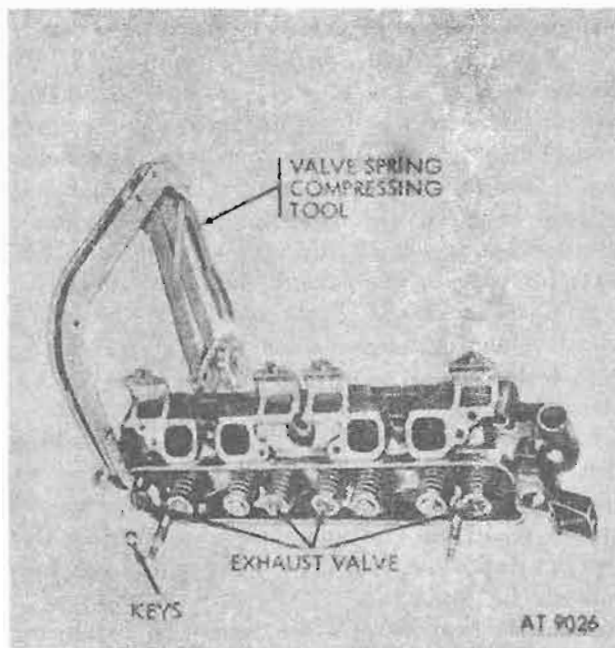

Figure 4-121. Exhaust valve spring retainer keys and valve stem cap—removal and installation.
a. *Remove Exhaust Valves* (fig. 4-121).
(4) **Exhaust valve springs, spring seats, locks and caps.** Install valve spring over valve stem with close-wound end of coil toward cylinder block. Install spring retainer. Use valve spring compressor to compress spring and install keys on the valve from which it was removed, (1) above, then remove tool. Install valve stem caps on the valve from which they were removed and tape in place on valve to insure correct location and prevent loss when handling cylinder head prior to installation. Refer to figure 4-121.